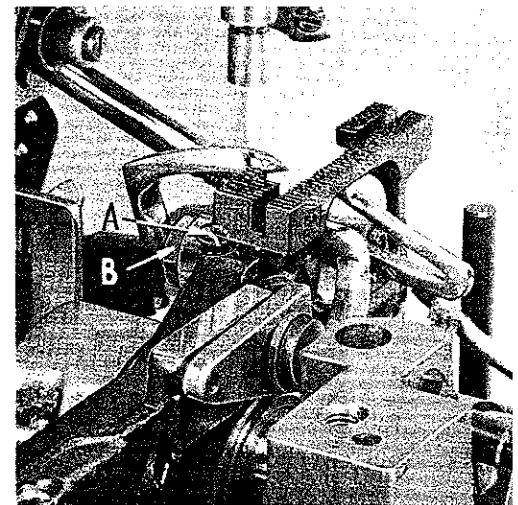
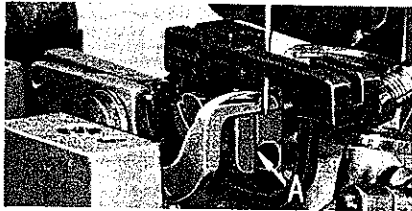

Fig. 8
Fig. 9
Set the feed dog (A, Fig. 7) in the throat plate (B) so there is equal clearance on all sides and that the tips of the teeth are parallel with and project  $3/64$  inch above the throat plate at high point of travel. Adjust the supporting screw (A, Fig. 8) under the feed dog to maintain this setting. Screw (C, Fig. 7) is used to
If feed dog teeth are not parallel with the throat plate, loosen nut (B, Fig. 8) and turn screw (A, Fig. 9) clockwise to lower the front teeth, and counterclockwise to raise the front teeth. Retighten nut when feed dog is set properly.